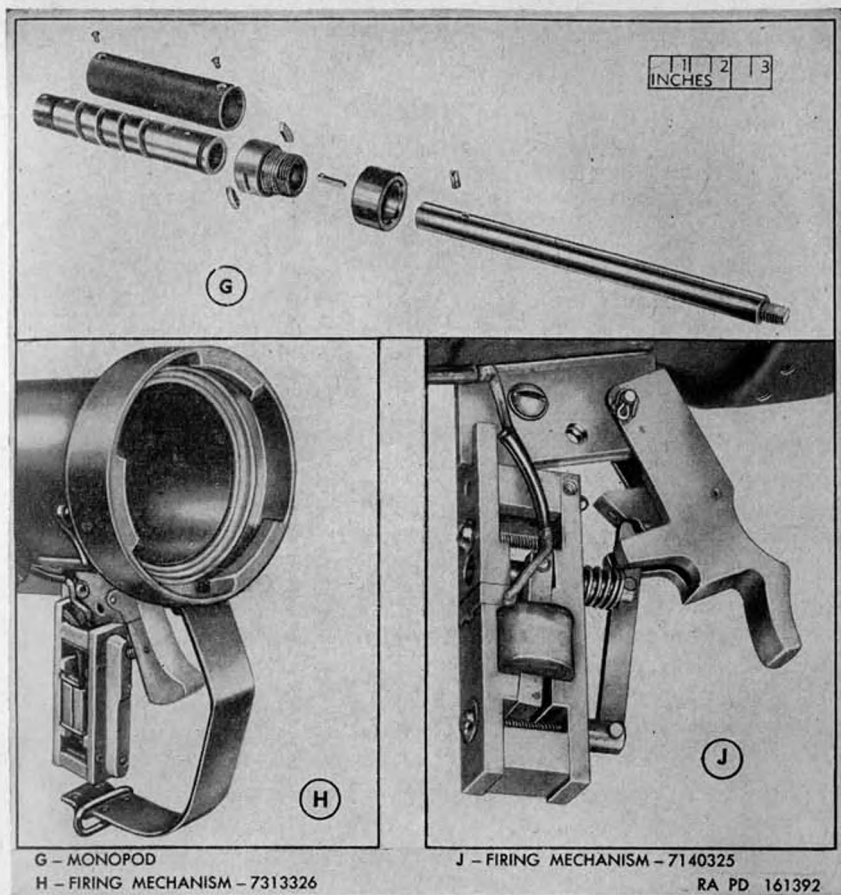
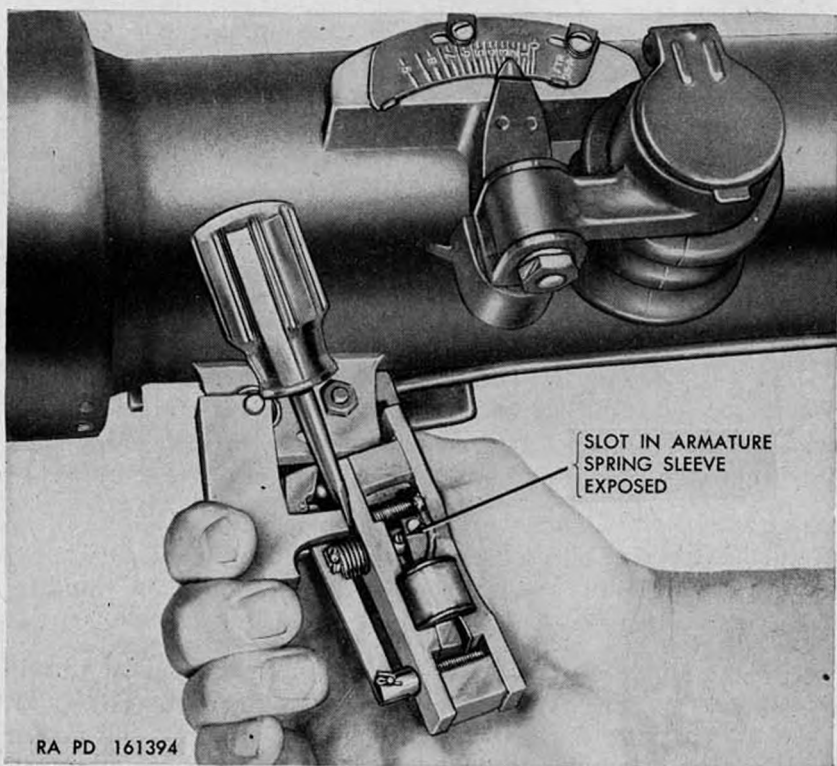

Figure 23. Localized lubrication points (G through J).
Figure 25. Lubrication of armature spring in electrical firing mechanism 7140325.
d. Electrical Firing Mechanism 7313326 (figs. 23 and 24).
e. Electrical Firing Mechanism 7140325 (fig. 23). The following operation is restricted to the organizational mechanic only.
- (1) Monthly, remove grips (par. 46b) and clean.
- (2) Apply the prescribed lubricant to the trigger pin and to the slot in the back of the trigger above and below the trigger latch. Operate the electrical firing mechanism several times after applying lubricant to the trigger latch.
- (3) Apply prescribed lubricant to the roller on the trigger latch, to both pins in the trigger bar, and to the armature spring sleeve.
- (4) Place the blade of a screwdriver against the front of the top plate of the firing mechanism, so as to stop the safety lugs of the trigger about one-eighth of an inch from the top plate, when the trigger is squeezed. Hold the trigger lugs against the screwdriver. This keeps the top of the armature in its rearward position and also exposes the slot in the armature spring sleeve (fig. 25) and a little of the armature spring. Apply the prescribed oil to the opening in the sleeve. Again squeeze the trigger a few times to work the oil into the sleeve.
- (5) Wipe off excess oil and assemble the grips to the firing mechanism (par. 48).
b. *Arrangement.* The reflecting sight assembly is a folding-type sight. It can be swung back against the launcher rear barrel and is out of the way when the weapon is in carrying position. The reflecting sight assembly (fig. 15) pivots in the sight bracket assembly, which is on the left side of the rear barrel of the launcher M20 just forward of the monopod. This pivot mounting permits the lens frame and indicator arm to swing as a unit with the pointer of the indicator arm (fig. 15) sweeping the elevation plate and provides the elevation setting of the reflecting sight (par. 21c). The folding action of the reflecting sight assembly is provided by a hinge stud (fig. 18), which fastens the lens frame into a yoke of the indicator arm. A ball lock, built into the hinge stud, secures the sight assembly in a fixed firing (sighting) position (fig. 23) or a fixed carrying position (fig. 15). The indicator arm, pointer, yoke, the hinge stud, the lens cover, the springs, the lock balls, and the elevation plate are steel parts.